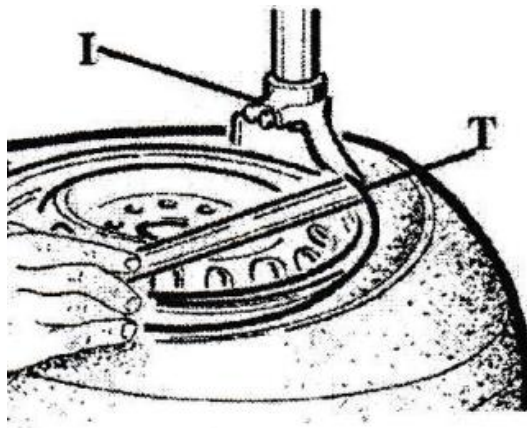

Figure 11
- ◇ As shown in Figure 11, insert into the crowbar (T) between the tire edge and the mounting head (I), make the tire edge hang on the disassembly head (I) outward, keep the crowbar (T) in this position, slam the pedal (Z) to make turntable (Y) rotates clockwise, until the tire is completely removed from the wheel rim by the crowbar (T).(when the rotating wheel is running, the other parts of the body should be as far